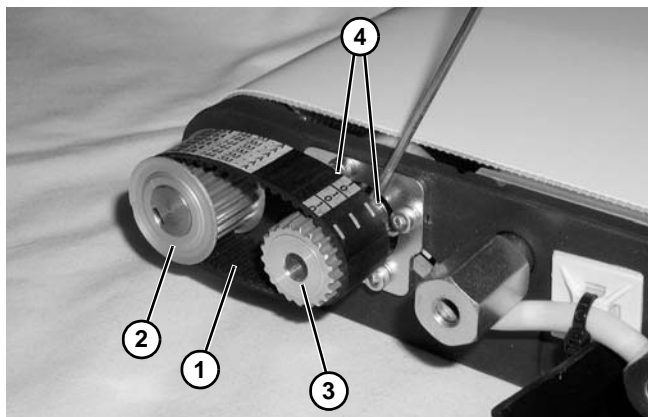

Figure 64
3. Slip timing belt (Figure 64, item 1) over driven pulley (Figure 64, item 2) and slide drive pulley (Figure 64, item 3) through timing belt onto gearmotor shaft.
4. Tighten drive pulley set screws (Figure 64, item 4) on gearhead shaft, making sure one set screw is over flat on shaft, and drive pulley is aligned with driven pulley.